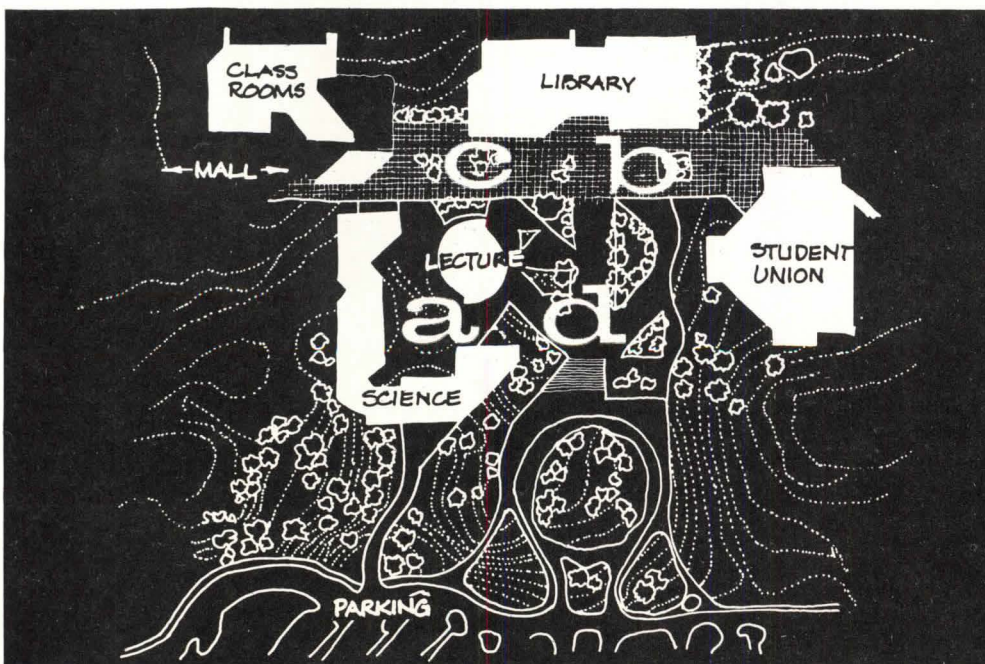

Figure 1
Question: Consideration is being given to using a campanile as a vertical accent to the campus. Where would be the most appropriate location (see Figure 1) for such an element? (A) Location A; (B) location B; (C) location C; (D) location D.